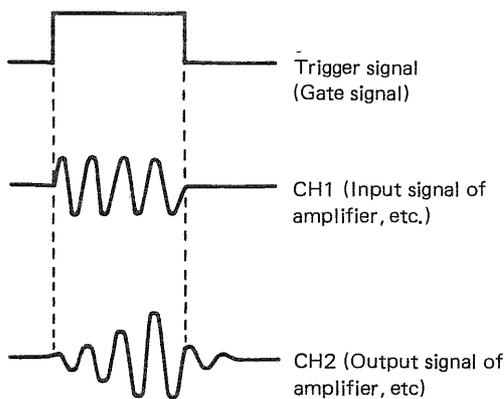

Fig. 7
Fig. 7 shows input and output signals observed when a gate signal is fed to EXT TRIG jack (22) as a trigger signal (the sweep circuit is driven with the gate signal) and, at the same time, the burst signal produced by the gate signal is fed to the sample circuit.